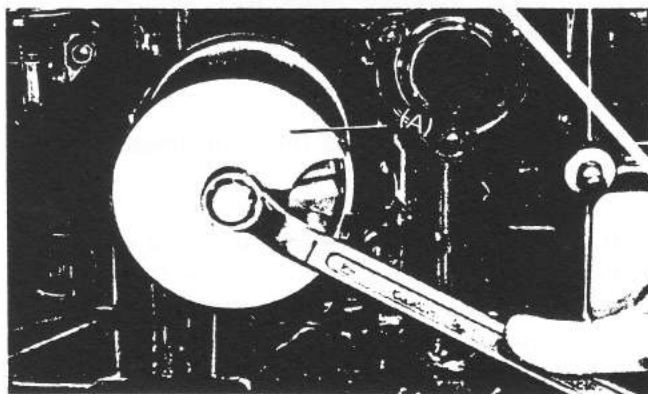

Fig. 161
- Use the special tool (No. 0490130 OIL FILTER WRENCH) (A) as shown in Fig. 161 to remove the oil filter.